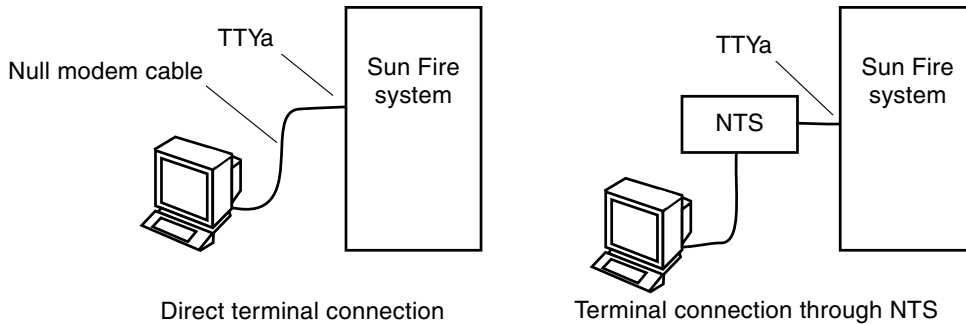

FIGURE 2-9 Serial Cable Connections
The initial system setup requires an ASCII terminal connected to the primary TTYa serial port on the patch panel using a null modem cable or through a network terminal server (NTS) (FIGURE 2-9).
2. **Connect the other end of the serial cable to the ASCII terminal or NTS server (FIGURE 2-9).**